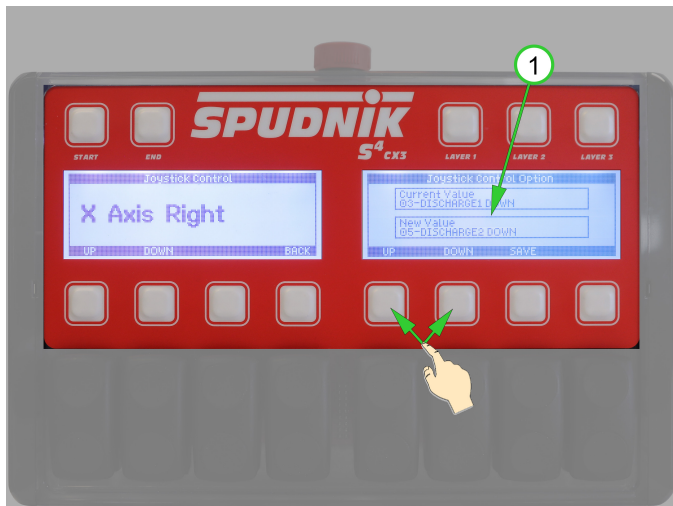

Figure 19
2. Joystick controls can be remapped using the Joystick or the CX3 (e.g., if the Joystick is temporarily unavailable). To remap using the Joystick, activate the Joystick axis position, momentary button, or rocker switch to be remapped. The name of the active Joystick control displays on the left screen. The *Current Value* and (1) *New Value* fields display on the right screen. (See Figure 19)